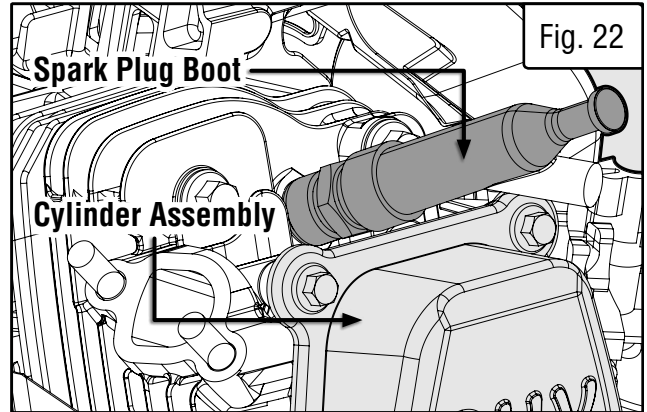

Fig. 22
1. Remove the two Phillips-head screws that secure the spark arrestor to the muffler (Fig. 22).